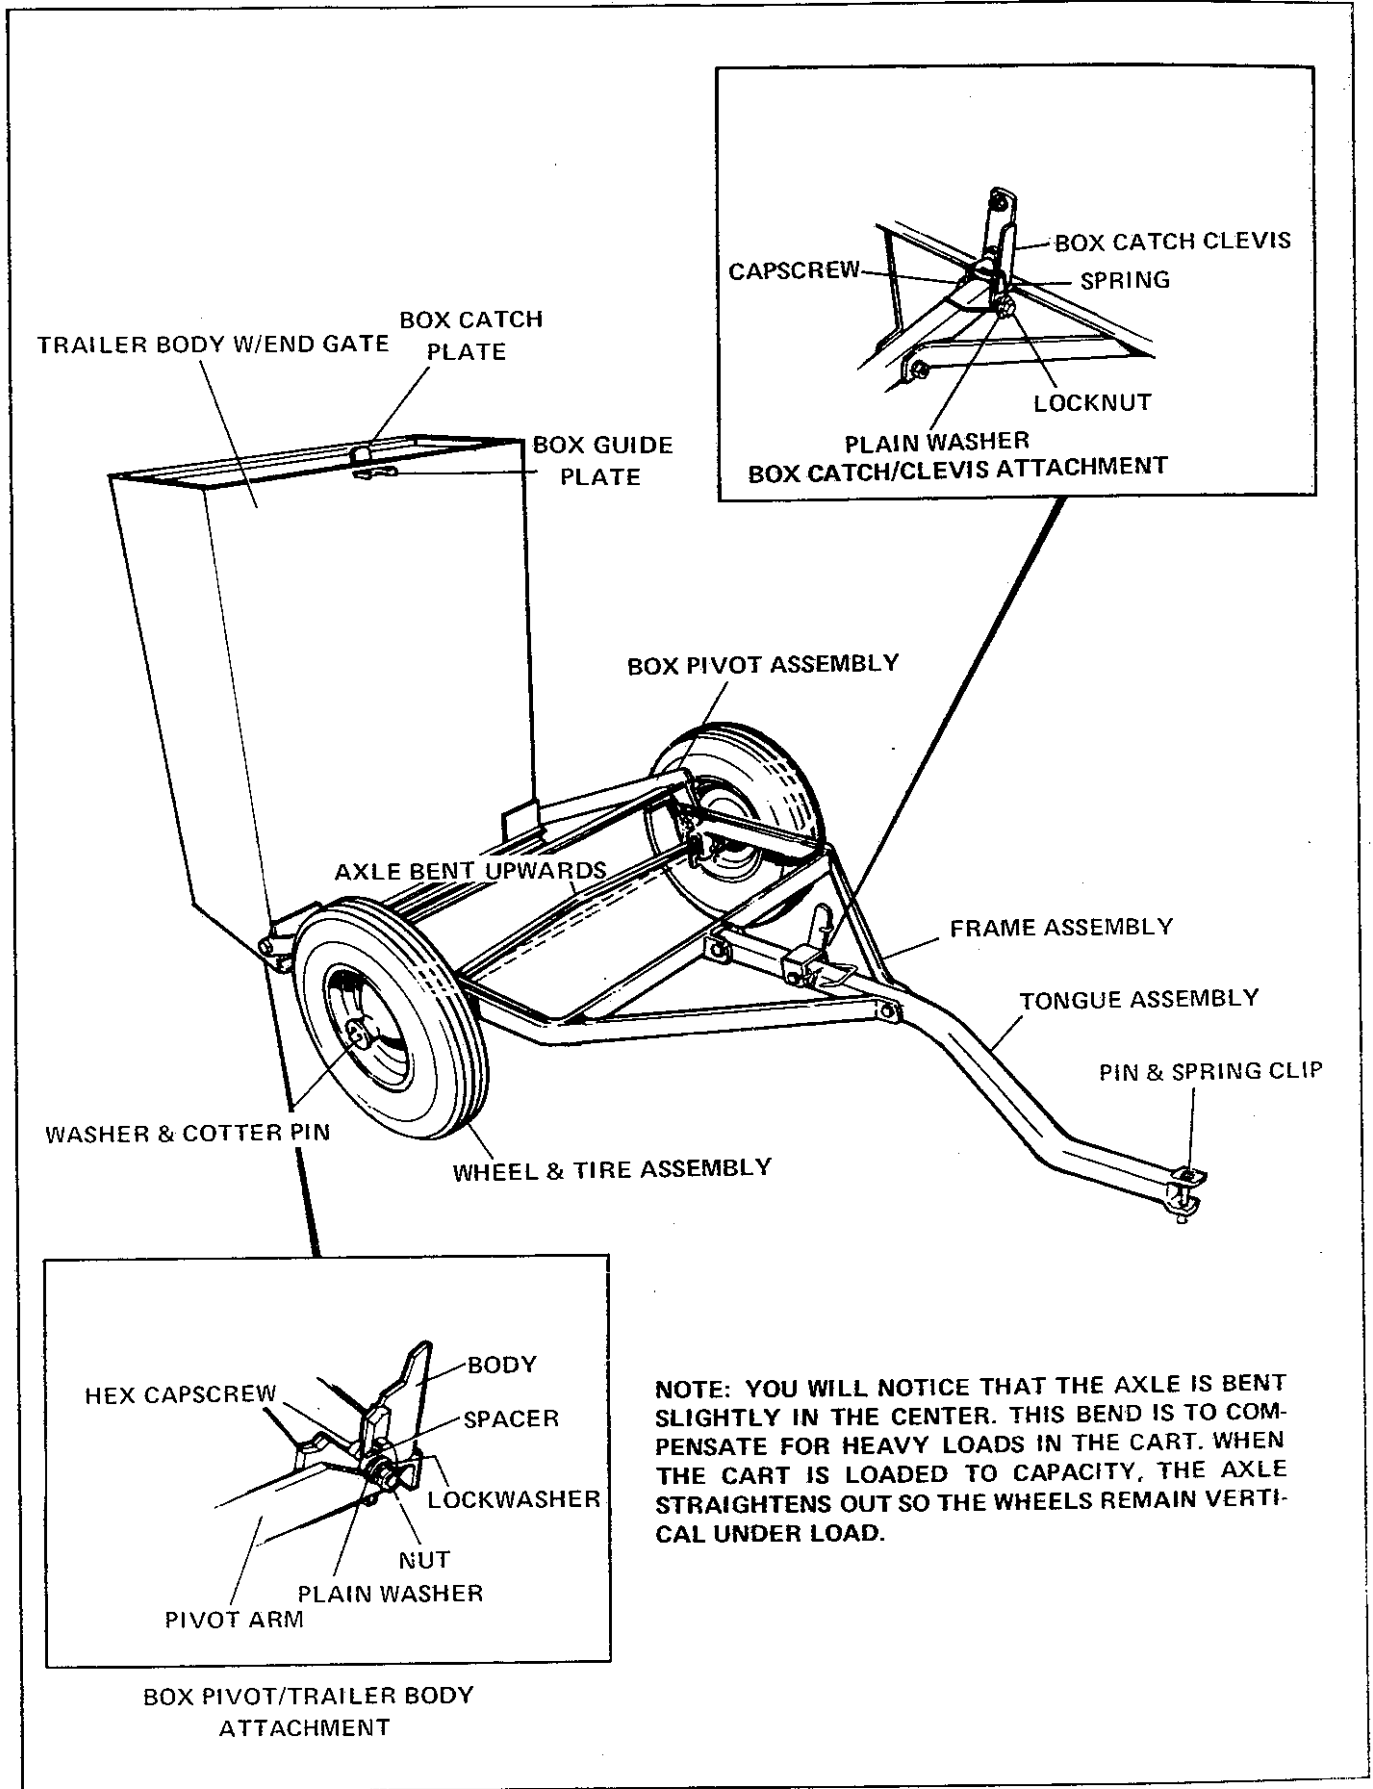

FIGURE 13
ASSEMBLY (Figure 13)
5. Place trailer body on its end gate and secure body to pivot box assembly as illustrated in Figure 13.
6. Secure box catch clevis to tongue as illustrated in Figure 13.